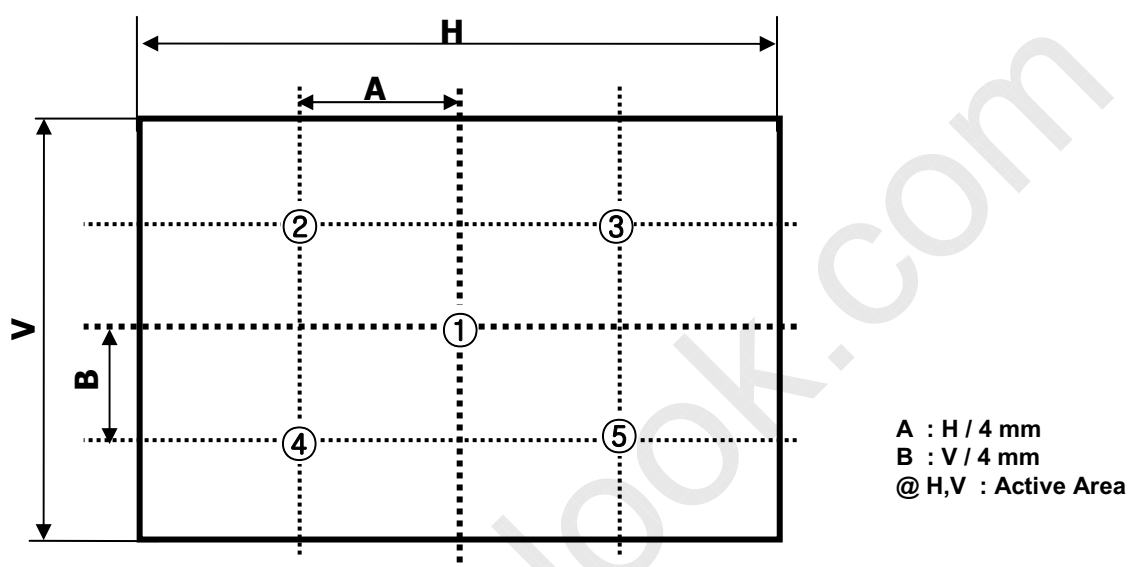

FIG. 2 5 Points for Luminance Measure
2. Surface luminance is determined after the unit has been 'ON' and 60min after lighting the backlight in a dark environment at $25 \pm 2^\circ\text{C}$. Surface luminance is the luminance value at center 1-point across the LCD surface 50cm from the surface with all pixels displaying white. For more information see the FIG. 2.
For more information, see the FIG. 2.